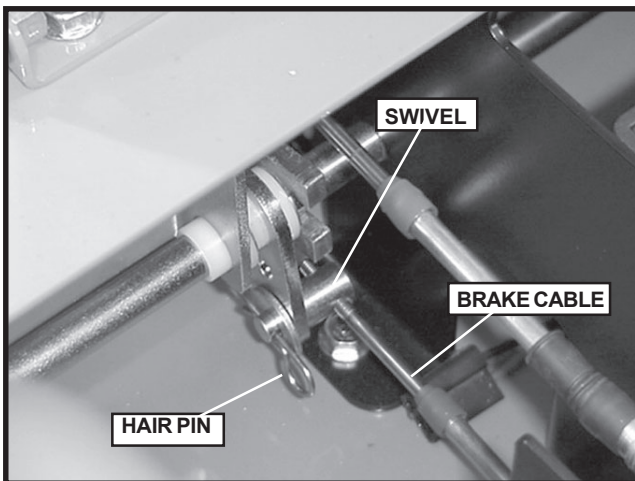

FIGURE 22
- The 1/4" gap can be adjusted with the brake swivel (located under the seat), pull pin and rotate swivel one turn counterclockwise to increase gap or clockwise to decrease the gap until the 1/4" gap is attained. See Fig. 22.